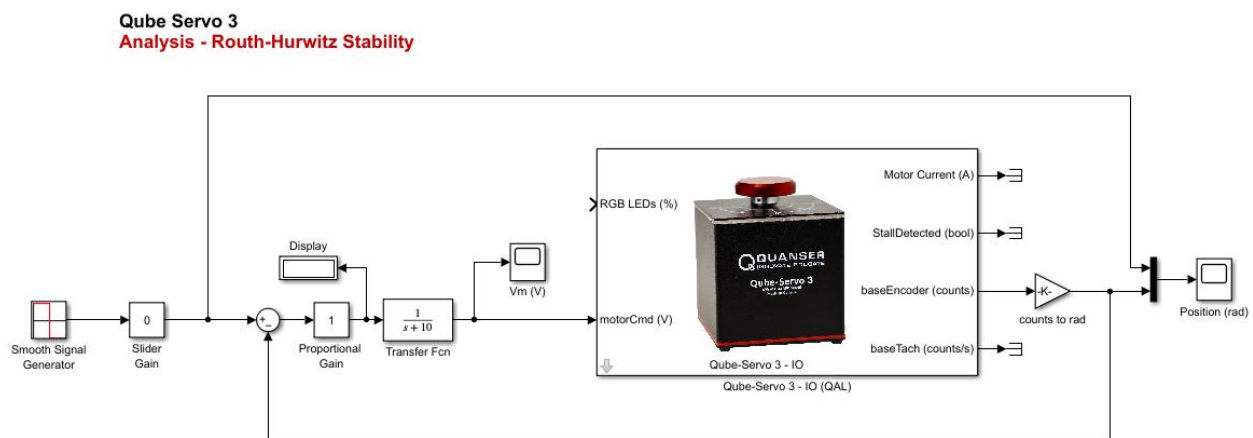

Figure 1: Simulink model used to test stability of Qube-Servo 3
Using the gains found to convert encoder counts into rads from the instrumentation labs update the qs3_routh_hurwitz.slx file to match Figure 1. Leave the disconnected gain block.
Build the Simulink model shown in Figure 1, if it has not already been provided, use a previous model as a start.
Now that the theoretical stability of the system has been calculated, these calculations can be validated on hardware. Create or open the Simulink model from Figure 1.
1. Open the `qs3_routh_hurwitz` model shown in Figure 1.